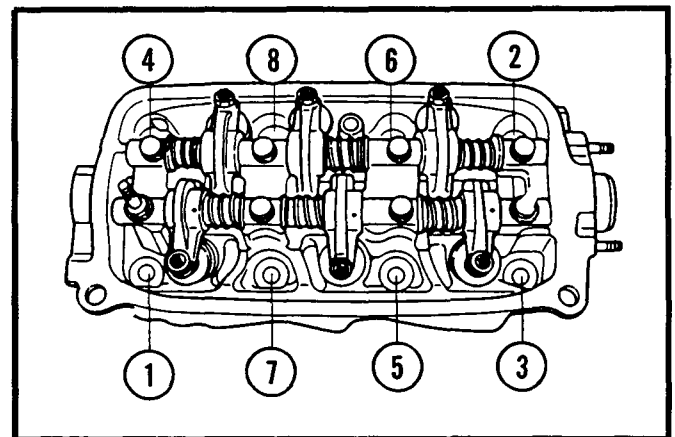

Figure 5.
- Loosen the cylinder head bolts a little at a time in two or three steps, in the specified numerical sequence. See Figure 5.